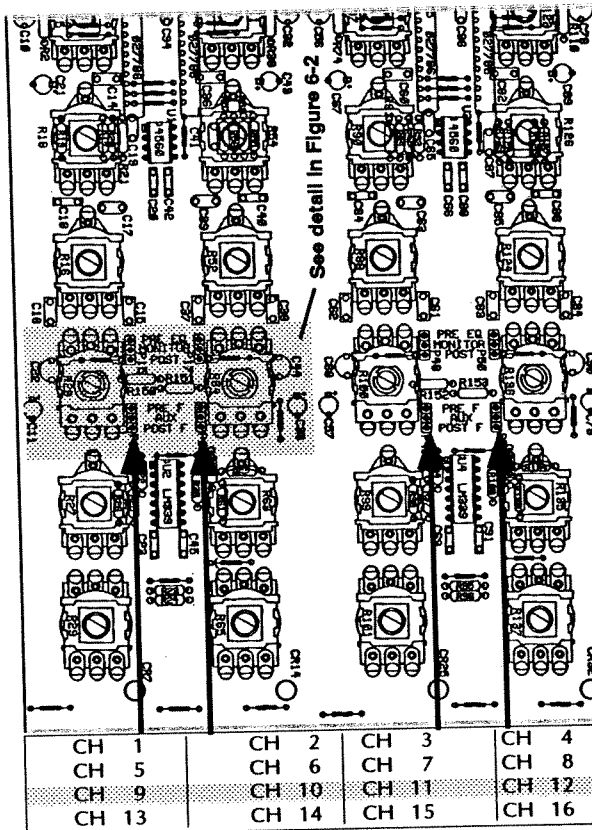

Figure 6-1. Location of Headers & Jumpers for Pre-Post Functions.
16. Refer to Figure 6-1. Locate the 3-pin headers which are adjacent to the EFF/REV-AUX pot [3] on each channel. Headers P16, P18, P49 and P51 are labeled PRE F/AUX/POST F, and determine whether the AUX send control [3] is post fader (the factory preset) or pre fader. P15, P17, P48 and P50 are labeled PRE EQ/MONITOR/POST and determine whether the MONITOR send control [4] is post EQ (the factory preset) or pre EQ.